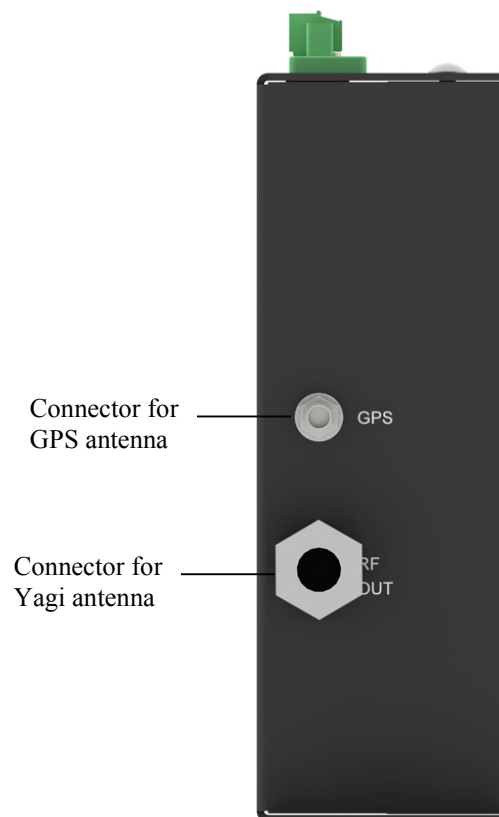
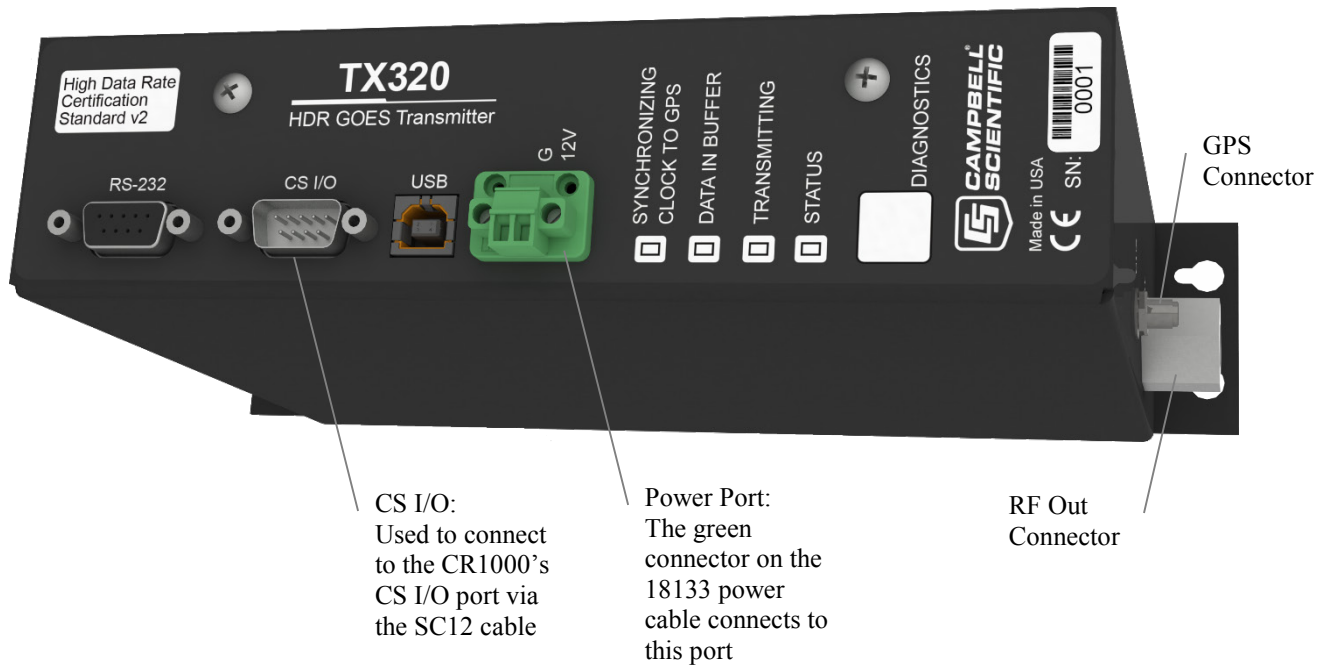
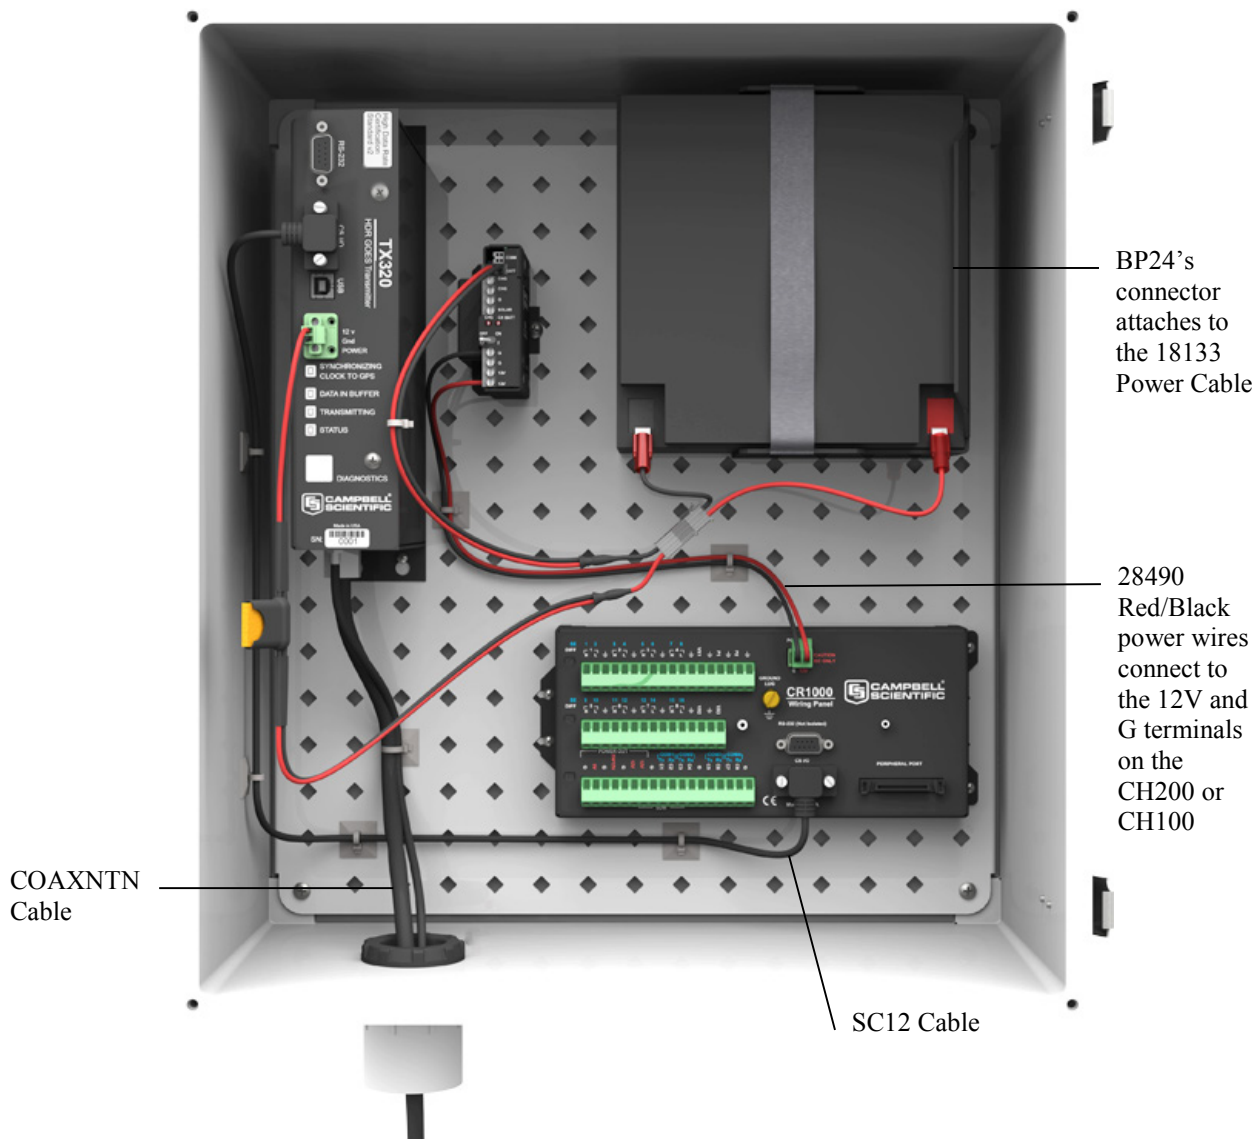

FIGURE 4-7. Antenna connectors
FIGURE 4-8. TX320 connectors
FIGURE 4-9. DCP enclosure
NOTE Refer to Section 4.1.1, *Accessing DevConfig* (p. 2), for information about accessing *DevConfig*. The transmitter's internal GPS can be used to acquire the azimuth and elevation information. To use the internal GPS device, connect the GPS antenna (see FIGURE 4-7). The information will be listed in the GPS tab of *DevConfig*.
7. Connect the COAXNTN cable to the Yagi antenna. Then route the COAXNTN cable through the enclosure conduit and connect it to the TX320 connector labeled RF Out (see FIGURE 4-7 and FIGURE 4-8).
8. Connect the TNC connector of the 18017-L cable to the GPS antenna. Route the 18017-L cable through the enclosure conduit and connect it to the TX320 connector labeled GPS (see FIGURE 4-7 and FIGURE 4-8).
9. Wire the TX320, CH100 or CH200 regulator, BP12 battery, and CR1000 according to FIGURE 4-8 and FIGURE 4-9.